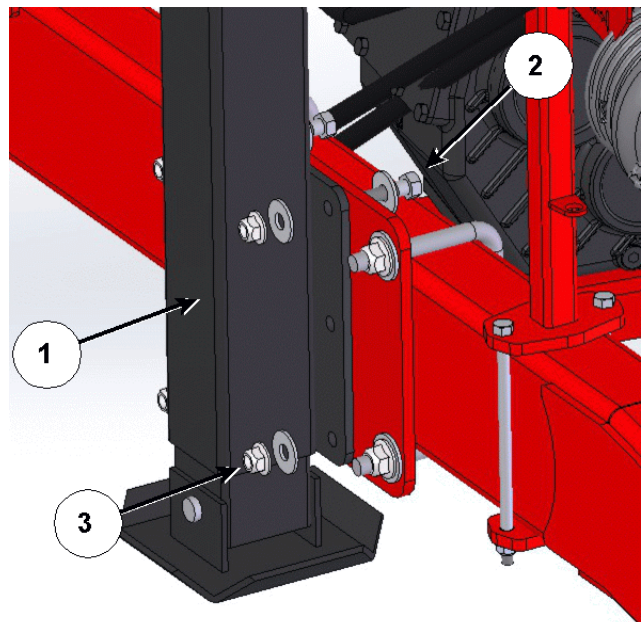

Figure 2: Attach jack to mount on the frame
4. Attach the hydraulic jack (1) to the mount on the frame, see *Figure 2*.
- b. Place a $\frac{5}{8}$ washer over a $\frac{5}{8}$ x 2 hex bolt (2) and feed through a hole on the frame mount. Secure with a $\frac{5}{8}$ washer and $\frac{5}{8}$ flanged lock nut (3), see *Figure 2*.